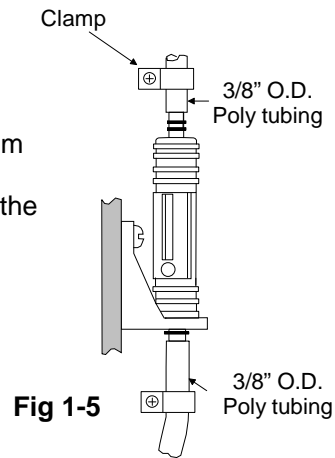

Fig 1-5
5. Connect 3/8" OD poly tubing from your RO unit to AG110-001 inlet port and 3/8" OD poly tubing from the AG110-001 outlet port to the drain pipe. Use provided clamps and screws to secure tubing. (See FIG 1-5)